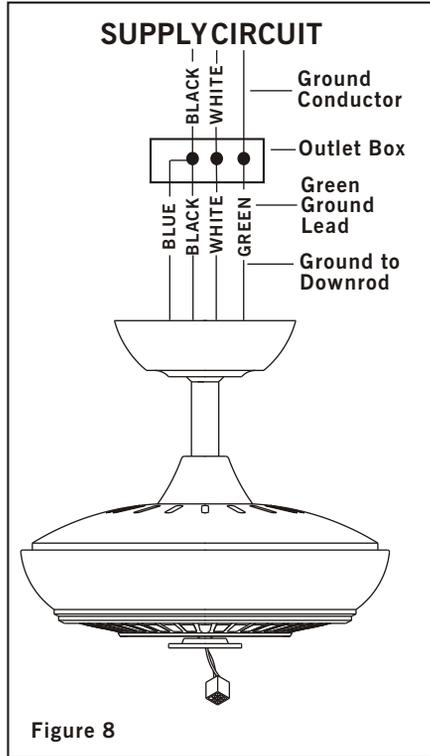

Figure 8
Step 1 Connect the fan supply (black) wire and light supply (blue) wire to the black household supply wire.(Fig. 8)